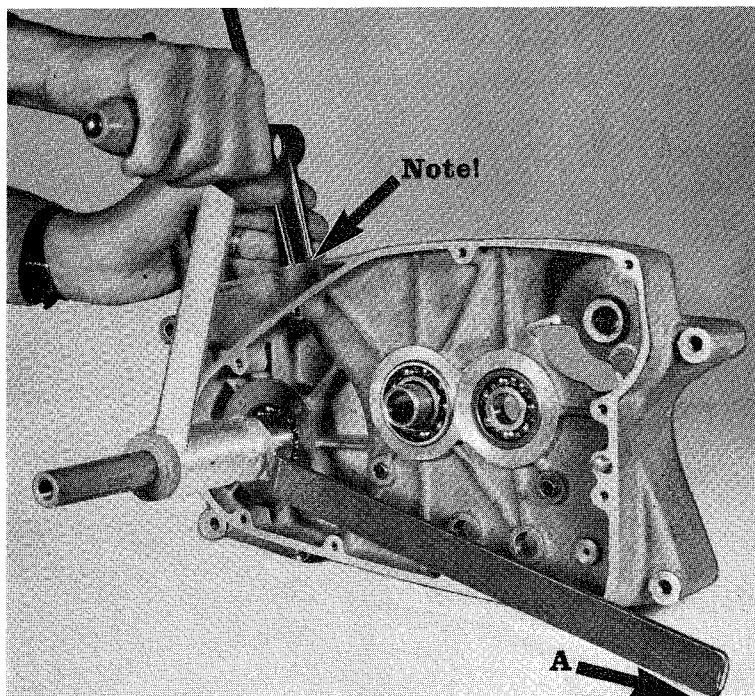

Fig. 2
2. Fit the crankshaft into the left-hand half of the crankcase, using assembly tool No. 15 19 251-01. See Fig. 2.